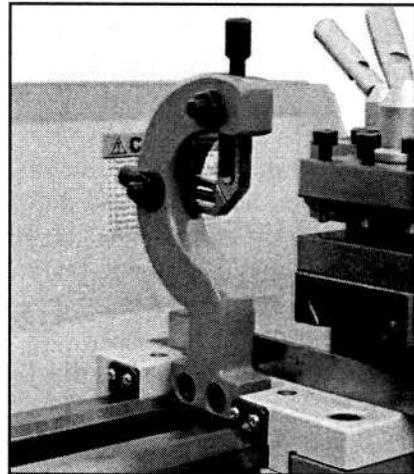
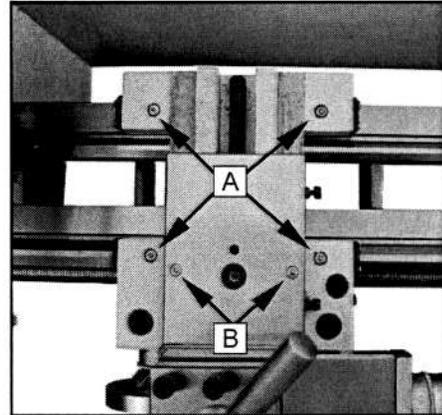

Fig. 31
Fig. 36
1. Loosen three hex nuts. (A, Fig.31)
2. Loosen knurled screw (B, Fig.36) and open the sliding fingers. (C, Fig.31) until the steady rest can be moved with its finger around the workpiece. Secure the steady rest in position.
3. Tighten knurled screws so that fingers are snug but not tight against the workpiece. Tighten three nuts (A, Fig.31). Lubricate the sliding points with machine oil.
The follow rest is mounted on the saddle and follow the movement of the turning tool. Only two sliding fingers are required. The place of the third finger is taken by the turning tool. The follow rest is used for turning operations on long, slender workpieces. It prevents flexing of the workpiece under pressure from the turning tool. ( Fig.31 ) Set the fingers snug to the workpiece but not overly tight. Lubricate the fingers during operation to prevent premature wear.
Lubricate Four oil ports (A, Fig. 36) with 20W machine oil once daily.
Lubricate two oil ports (B, Fig. 36) with 20W machine oil once daily.